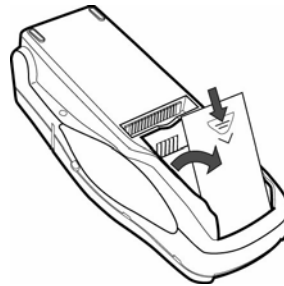

Figure 9 Open the MSAM Access Door
- A SAM (security access module) access door, underneath the battery (Figure 9). The Omni 3600 terminal contains three micromodule-sized SAM (MSAM) cardholders to support multiple stored-value card programs or other merchant cards
- 2 Open the MSAM door located beneath the battery (Figure 9):